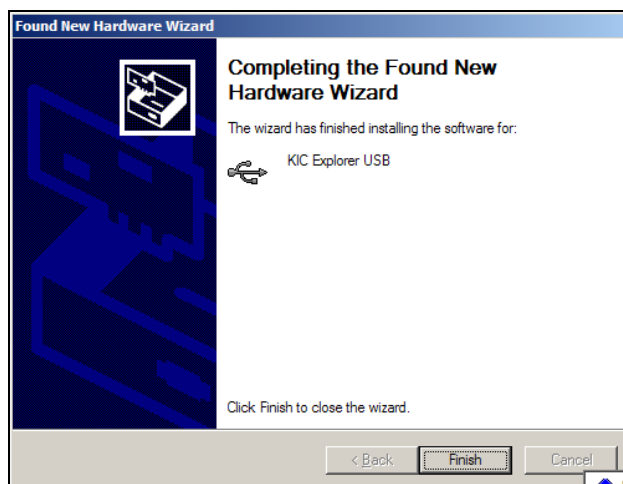

Figure 12: Completing Windows Found New Hardware Wizard
- Windows will begin installing the USB software drivers. When complete a finished message will appear. Select the “Finish” button. See Figure 12.